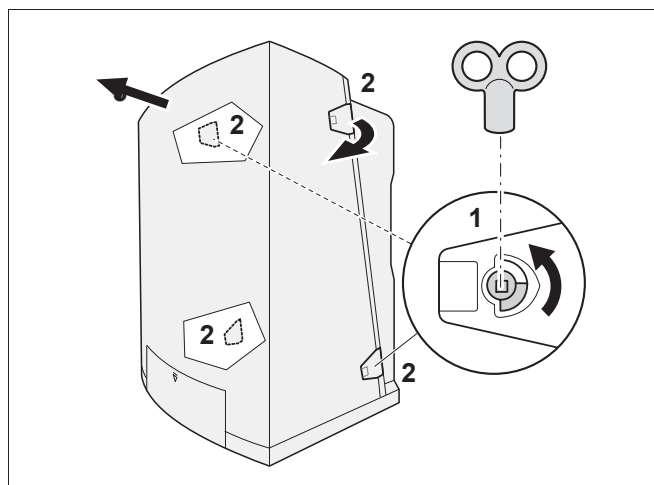

Fig. 7 Removing the casing
- Use the radiator key to unlock the two latches a quarter turn (see fig. 7, pos. 1).
- Open the latches (see fig. 7, pos. 2).
- Remove the casing by lifting it upwards and then pulling it forwards (see fig. 7, pos. 3); do not hold the casing by the latches.